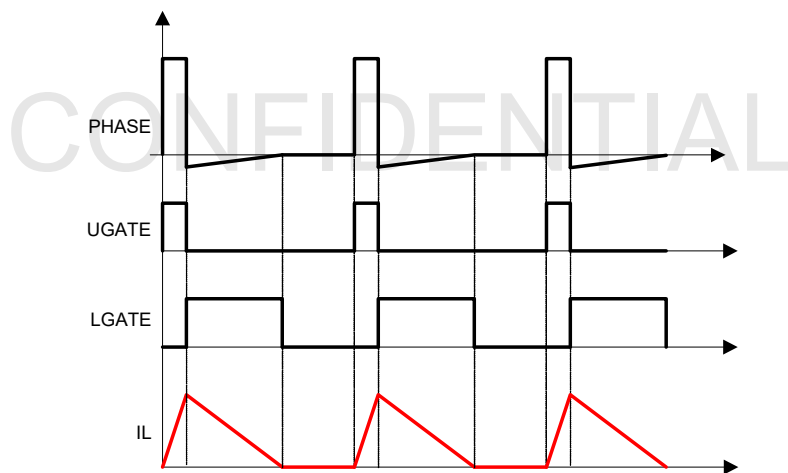

Figure 31. Diode Emulation
The R3 modulator can operate in Diode Emulation (DE) mode to increase light-load efficiency. In DE mode, the low-side MOSFET conducts when the current is flowing from source-to-drain and does not allow reverse current, which emulates a diode. As shown in Figure 31, when LGATE is on, the low-side MOSFET carries current and creates negative voltage on the phase node due to the voltage drop across the ON-resistance. The IC monitors the current by monitoring the phase node voltage. It turns off LGATE when the phase node voltage reaches zero to prevent the inductor current from reversing the direction and creating unnecessary power loss.
If the load current is light enough, as Figure 31 shows, the inductor current reaches and stays at zero before the next phase node pulse, and the regulator is in Discontinuous Conduction Mode (DCM). If the load current is heavy enough, the inductor current never reaches 0A, and the regulator is in Continuous Conduction Mode (CCM) although the controller is in DE mode.